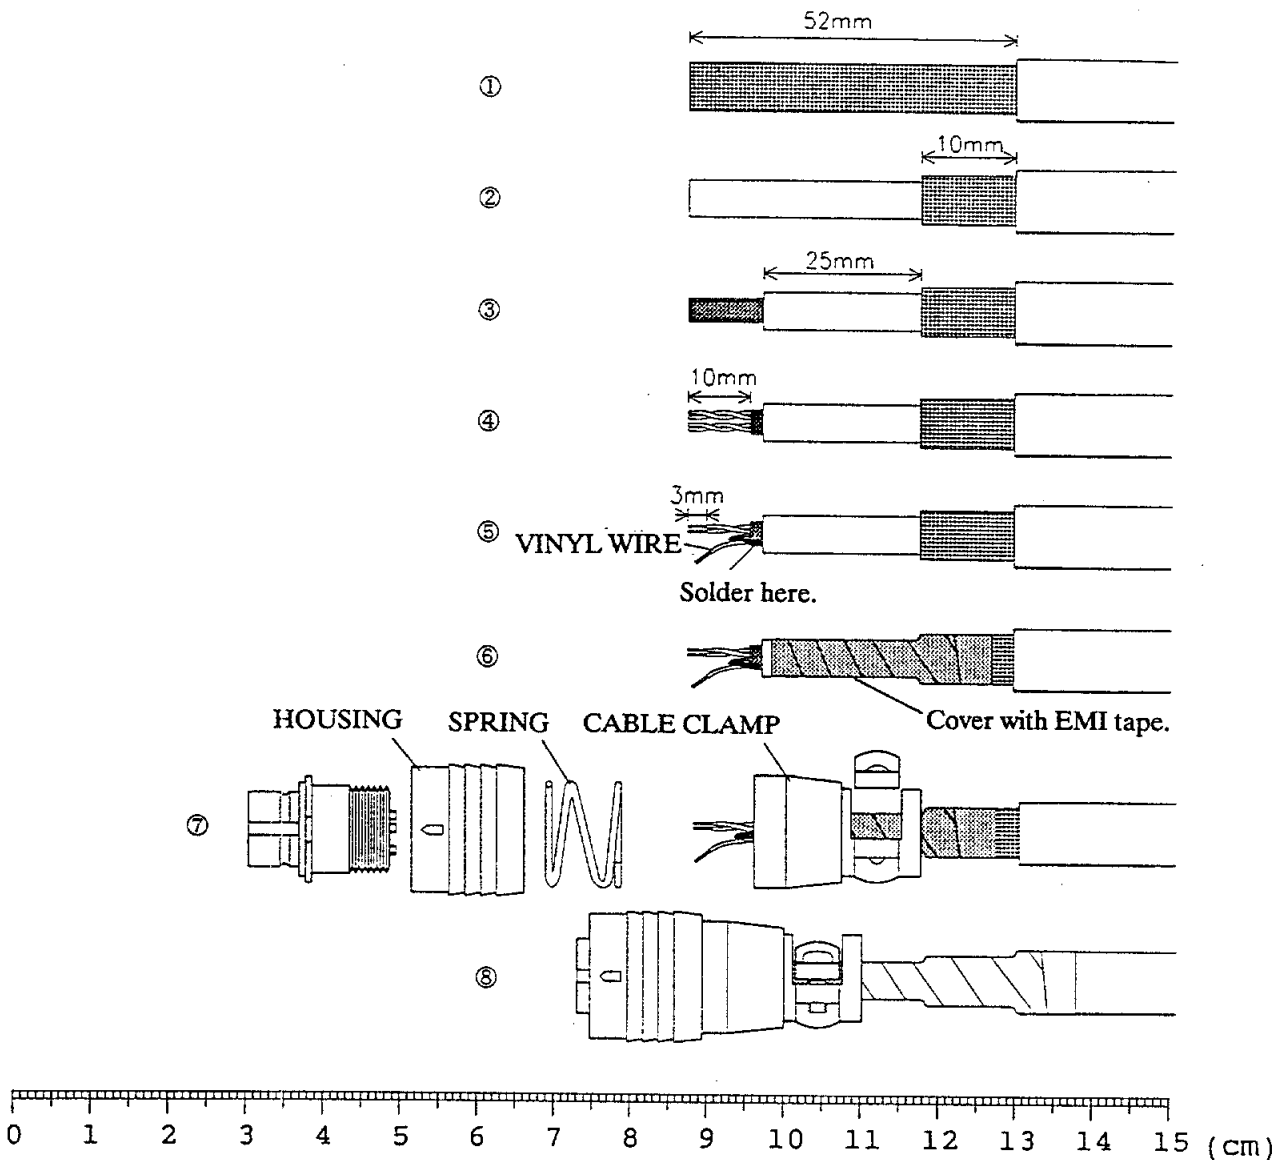

Figure 11 How to fabricate twisted pair cable
1. Process the outer sheath, armor, vinyl sheath and shield as shown in steps 1 – 4 in Figure 11.